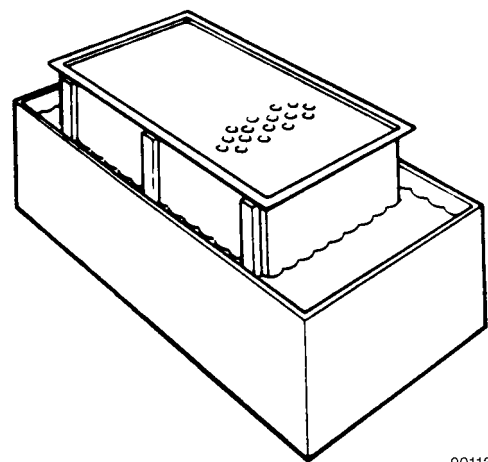

FIGURE 5-6. WASHING AND SOAKING THE PRECLEANER SECTION
2. Loosen the clamps and remove dust collector (1) from the precleaner section. Wash the dust collector with a water and liquid soap solution.
3. Submerge the precleaner section in a solution of Donaldson D-1400 and warm water (see Figure 5-6). Mix the solution according to the directions on the package. The tube section must be down. Soak for 30 minutes, then remove the precleaner section from the solution. Rinse thoroughly with fresh water and blow dry.